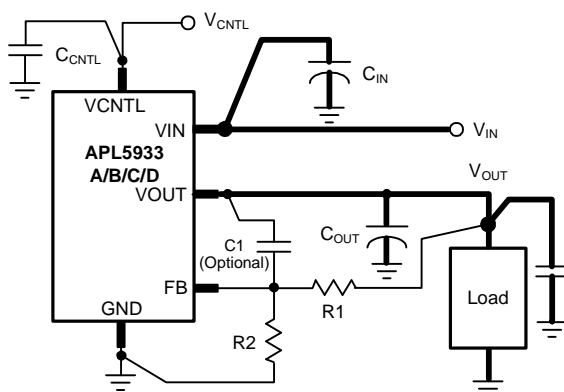

Figure 1.
Layout Consideration (See Figure 1)
6. Large current paths, shown by bold lines on the figure 1, must have wide tracks.